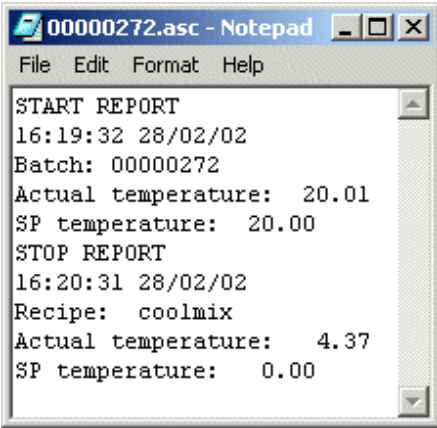

Figure 6-10 The customised Batch Start screen
- 3 Press **Menu, BATCH, BATCHES**, and select the 'BATCH' file. Press **LOAD** to see the customised **Batch Start** screen, Figure 6-10.